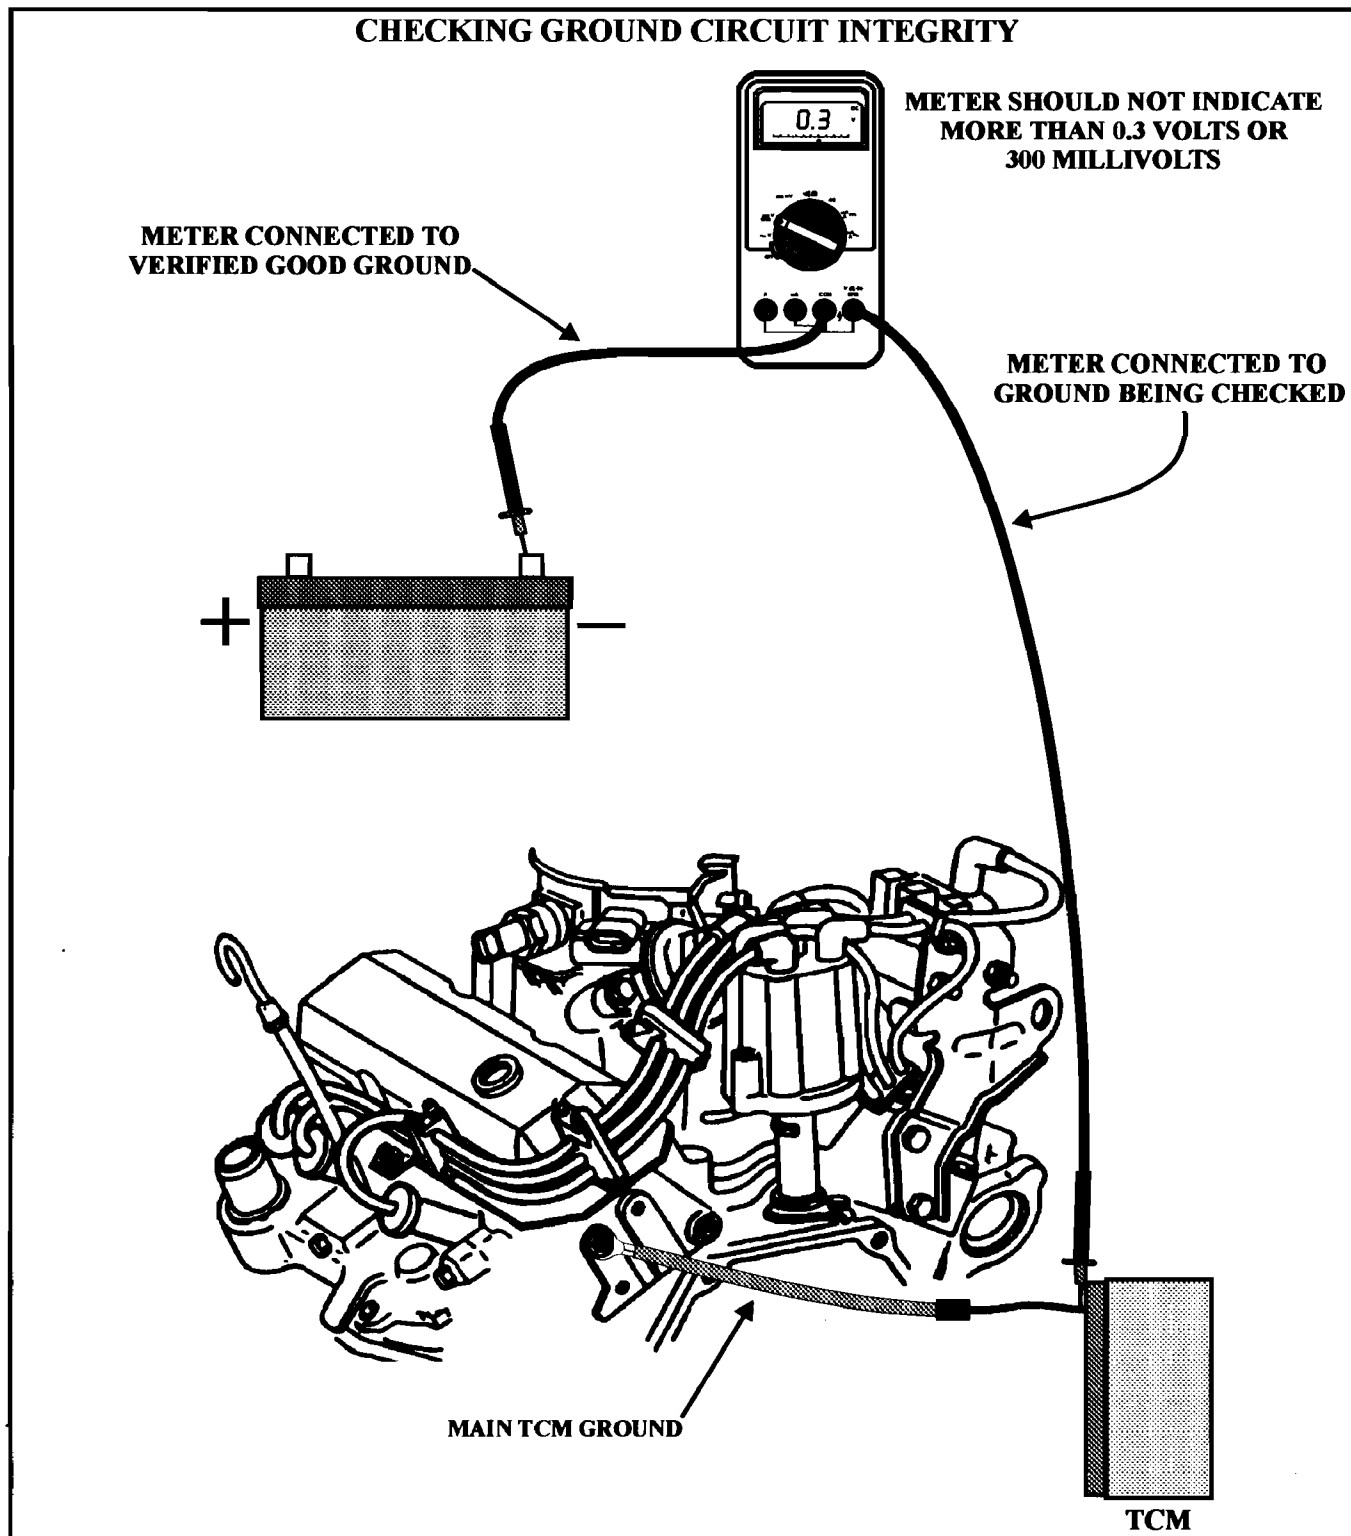

Figure 8
- (2) Check the main TCM ground circuits as illustrated in figures 4,5,6, and 7, using the voltage drop method, including the negative battery cable condition at both ends and repair any ground circuit that contains 300 millivolts or higher. (Refer to figure 8)